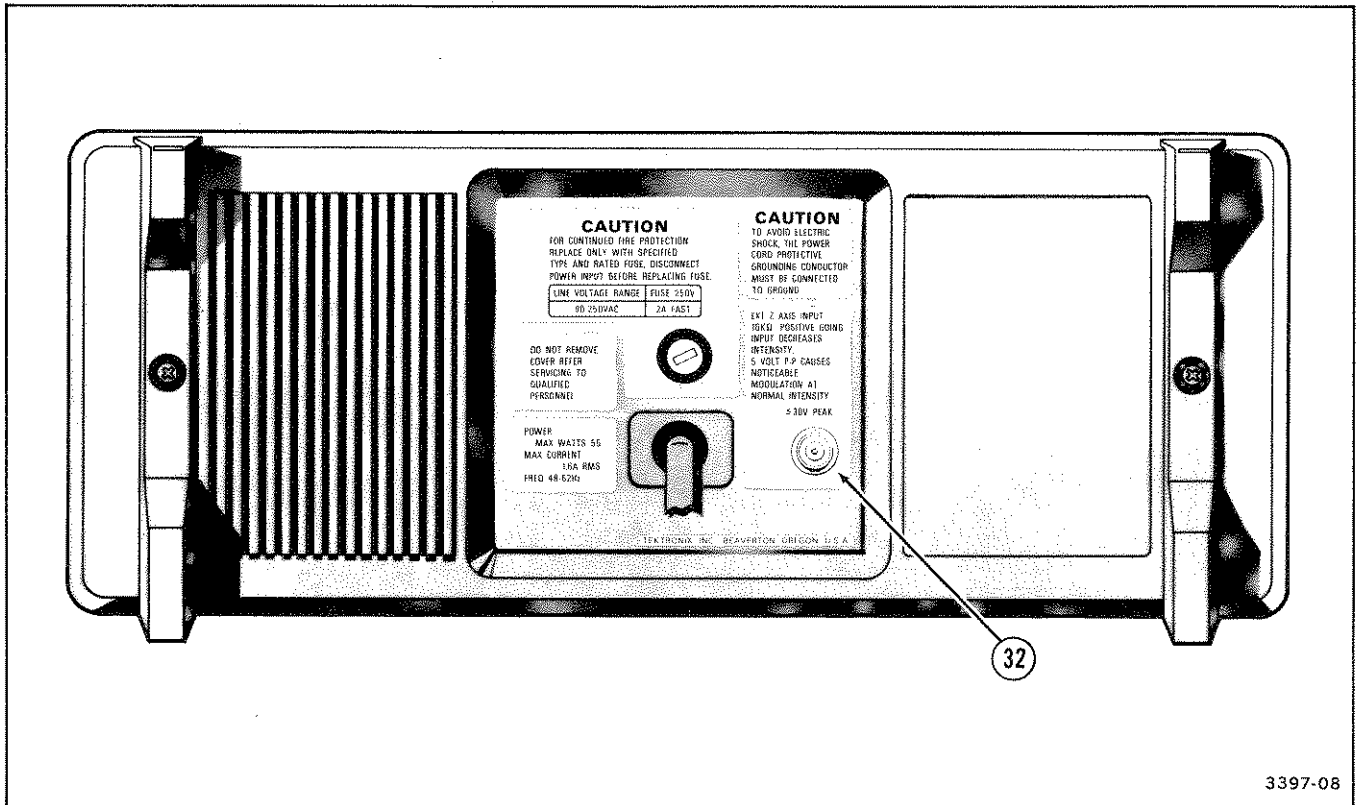

Figure 7. Rear-panel connector.
Refer to Figure 7 for location of item 32.